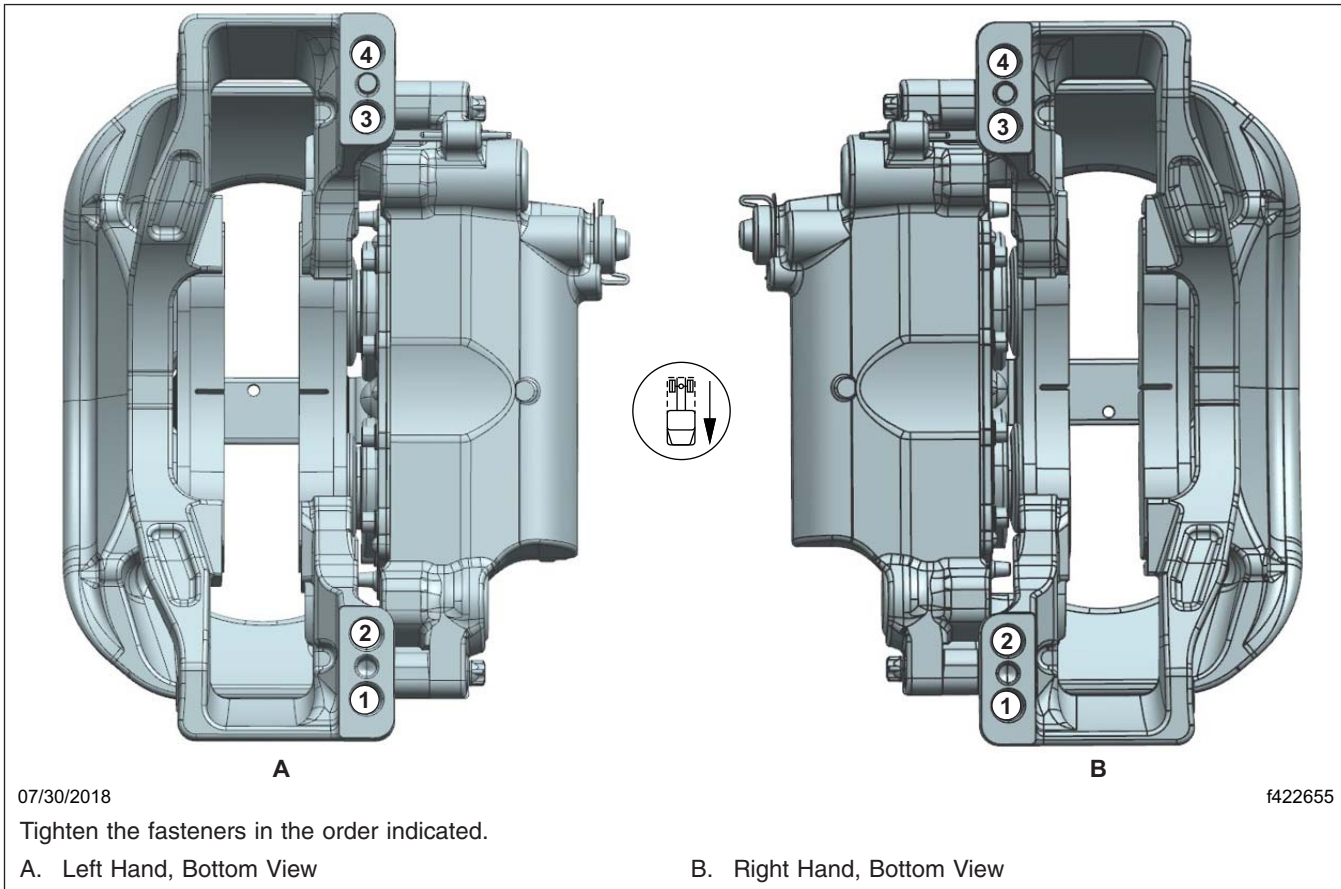

Fig. 7, Meritor Radial Mounted Caliper Tightening Pattern
4. Set a torque wrench to 350 lbf-ft (475 N-m) and tighten the caliper mounting bolts following the tightening pattern shown in **Fig. 7**. If they do not turn, no further work is needed. If they turn, take the vehicle to an authorized Freightliner dealer to have all of the caliper bolts on that wheel end replaced.